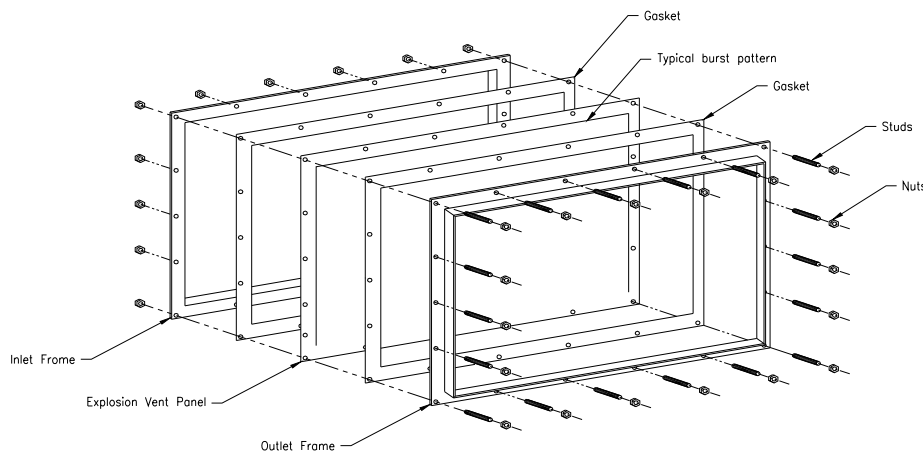

Figure 1
- e) Carefully install the new explosion vent between the inlet and outlet mounting frames using new gaskets as shown in figure 1. ZOOK recommends compressed fiber gasket no greater than 1/16" (1.6mm) thick. The user is cautioned to select a gasket material that is suitable for the intended service and will resist "cold flow". In the event of cold flowing of the gaskets, the installation torque will relax, which can result in erratic bursting of the Explosion vent and/or leakage.